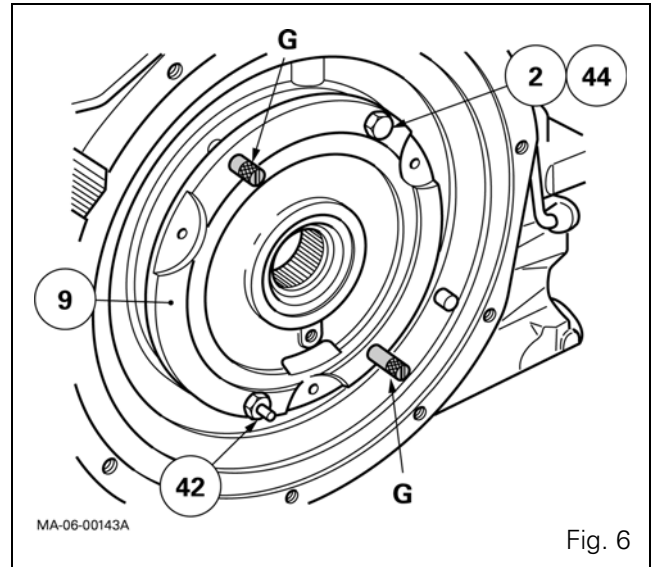

Fig. 6
15. Fit the O'ring (1).
16. Assemble washer (11), mobile coupler (7) and spring (6).
17. Refit the assembly in the left-hand flange (9).
Flange fitting method (9) (Fig. 6)
18. Screw two guide studs "G" (L = 60 mm approx.) to the centre housing (Fig. 6).